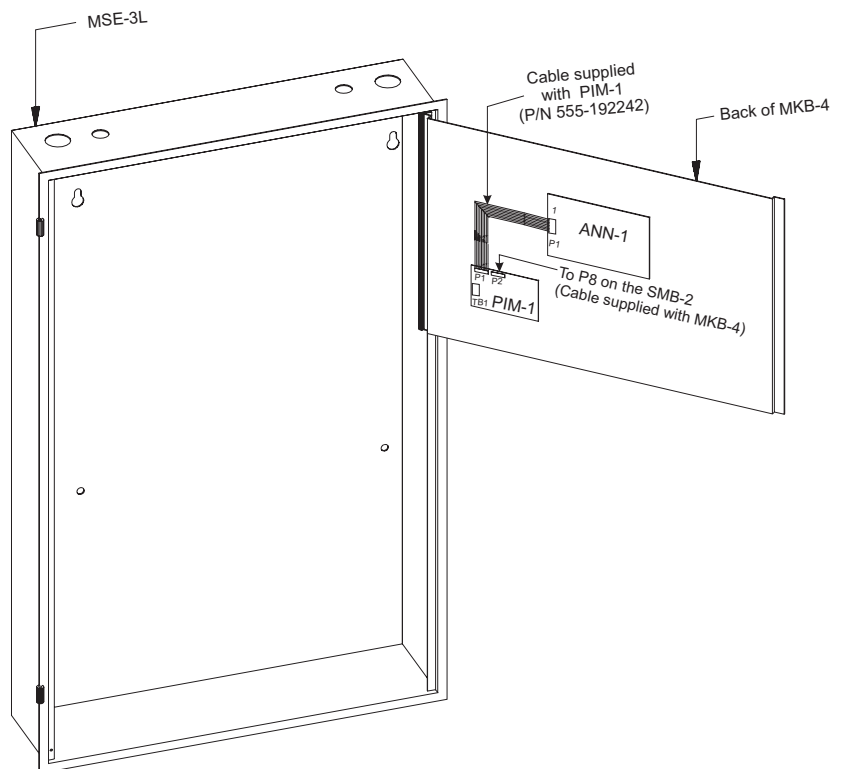

Figure 27
1. Install the PIM-1 on the back of the MKB-4 panel as shown in Figure 27. Position the PIM-1 so the TB1 is on the left side of the board.
3. Using the cable supplied with the PIM-1, connect PIM-1, P-1 to ANN-1, P1 (See Figure 27).
4. Using the cable supplied with the MKB-4, connect PIM-1, P2 to SMB-2, P8 (See Figure 27).